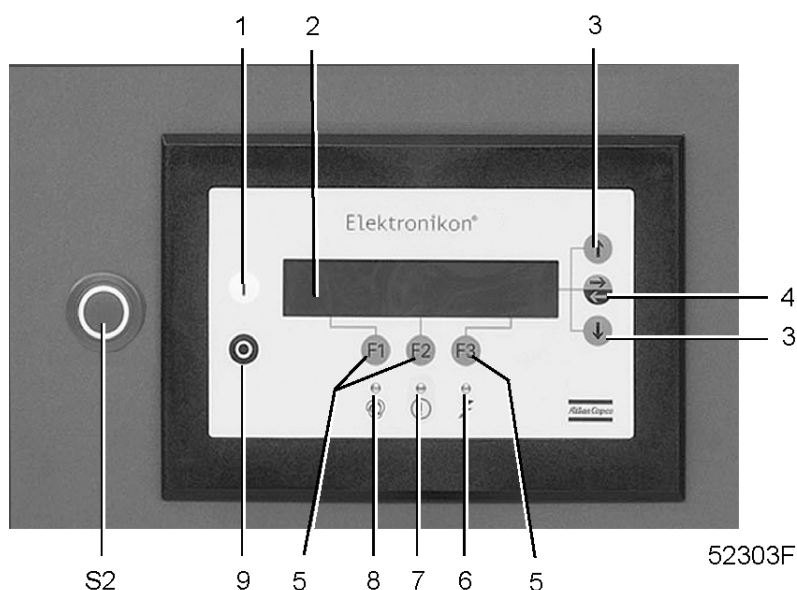

Fig. 1.12 Control panel
A number of service operations are grouped (called Level A, B, C, ...). Each level has a programmed time interval. If a time interval is exceeded, a message will appear on display (2-Fig. 1.12) to warn the operator to carry out the service actions belonging to that level. See section 4.
1.8.1 Function keys (5-Fig. 1.12)